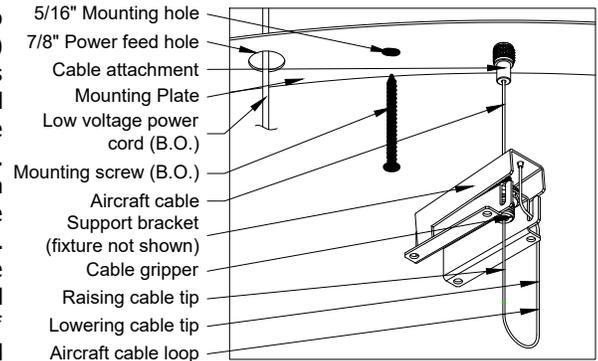

Fig. 4. Support mechanism and feed location.
2. Fixture mounted surface should have structural integrity to support fixture weight. Fixture support plate (see Fig. 4) has 7/8" hole for low voltage power cord (by others). 5/16" plate mounting holes to except support hardware (by others).
6. Locate aircraft raising tips on the cable loops. Raising tip is going through cable gripper mounted inside each support bracket (Fig. 4). Hold raising cable tip down and slightly lift this side of the housing at the same time. Gripper will hold housing in raised position. Repeat the same procedure for all support brackets moving around the housing till housing is seating flat against ceiling with minimum gaps, and support plate located inside the housing. Housing can be lowered if needed by pulling down lowering cable tip (Fig. 4). Make sure to support housing at the bracket while lowering. Housing